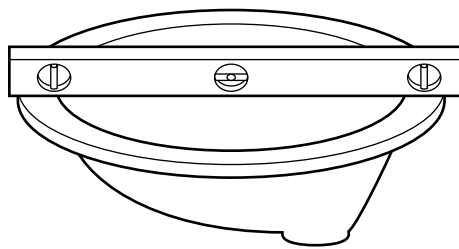

Figure 24
- Hand-sand to level high spots (see Figure 24).